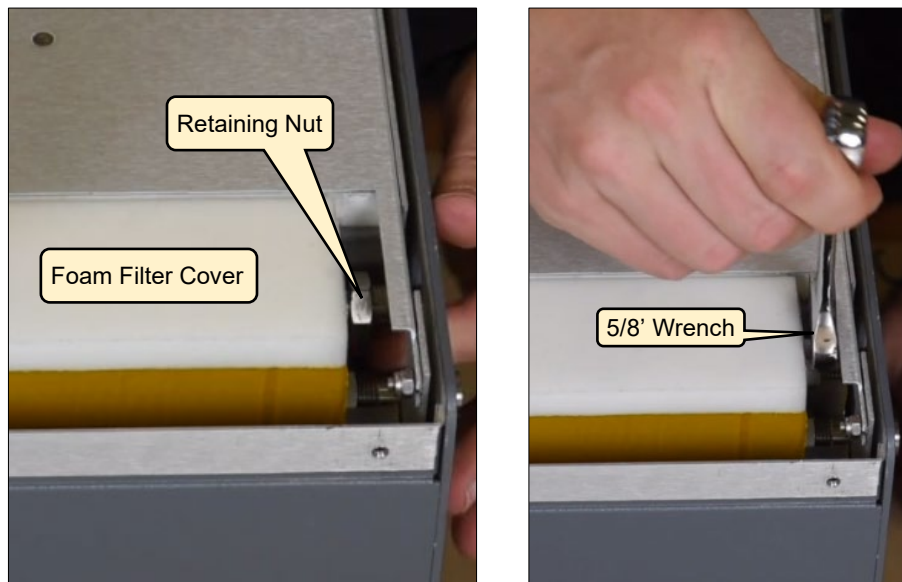

Figure 6: Bulkhead Retaining Nut Loosened
5. Slide the foam and metal filter toward the right side panel, then lift it out to expose the filter (Figure 6).